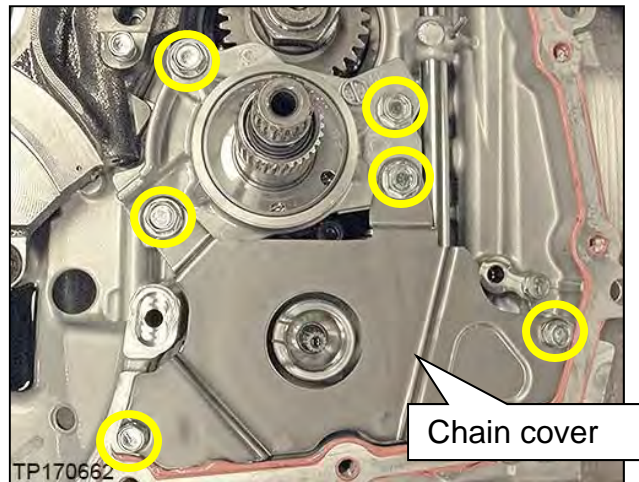

Figure 78
56. Remove the six (6) bolts shown in Figure 78 and then remove the chain cover.